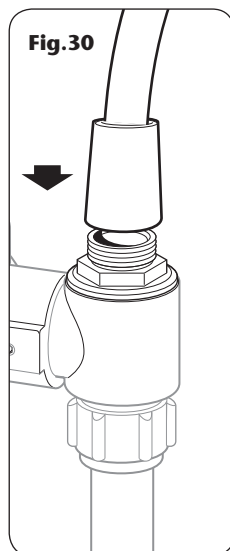

Fig.30
- d. Attach a hose to the flushing cartridge (**fig.30**) outlet and direct the other end to waste. Flush the pipe clean.